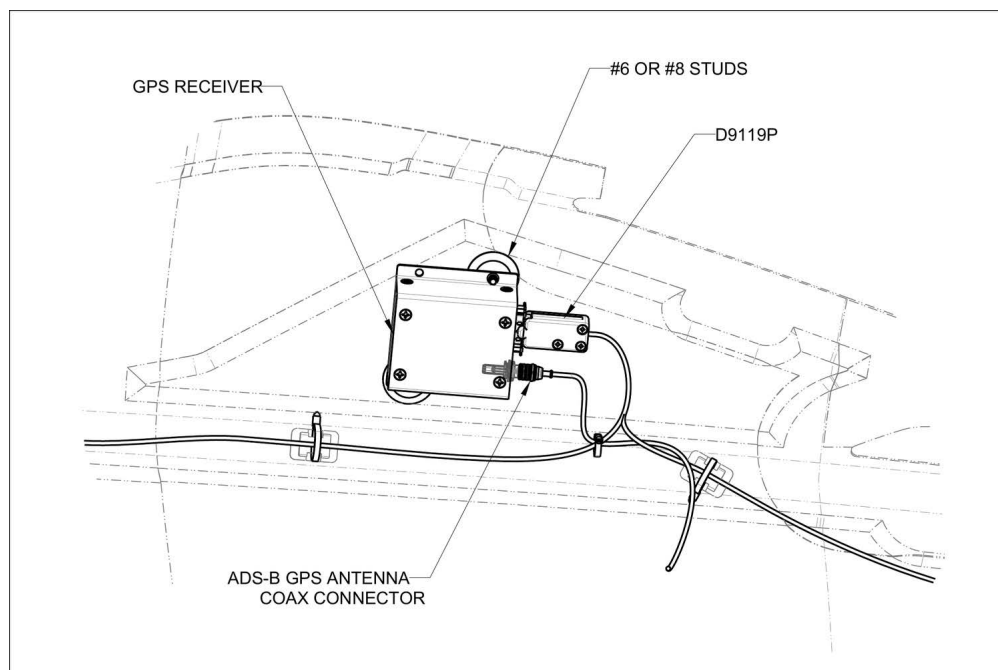

FIGURE 14-82
1. Position the GPS RECEIVER onto the studs on the LH Fuselage Skin. See Figure 14-82.